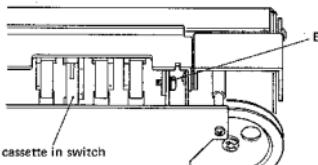

Fig. 5-2 Holder adj. screw (ホルダー調整ネジ)
- If the clearance A is not within the 0.5 - 1.3 mm range, adjust it with screw B. (Fig. 5-2 shows the upper left part of the transport as seen from behind. There is a similar holder adj. screw in the upper right part.)
(図5-2はトランスポート左上部を背面から見た図です。右上部にも同様の調整ネジがあります)。